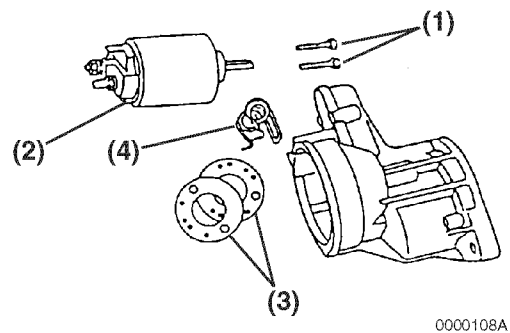

Figure 11-7
7. Remove the two M6 bolts (Figure 11-7, (1)) retaining the magnetic switch assembly (Figure 11-7, (2)) to the gear housing. Remove the magnetic switch assembly, dust cover(s) (Figure 11-7, (3)) and torsion spring (Figure 11-7, (4)) from the gear housing.